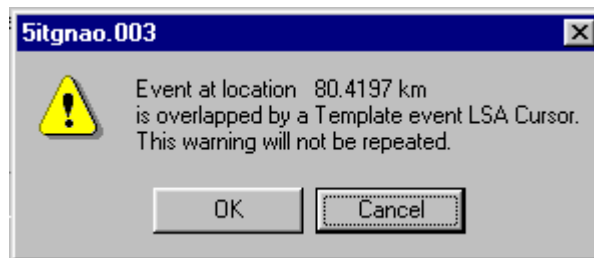

Figure 12-5: Warning Dialog
5. Click **OK** to apply the splice template *without saving the traces*. The warning in Figure 12-5 may now appear indicating that the event at 80.4197 on trace 5ITGNAO.003 overlaps a template LSA cursor.